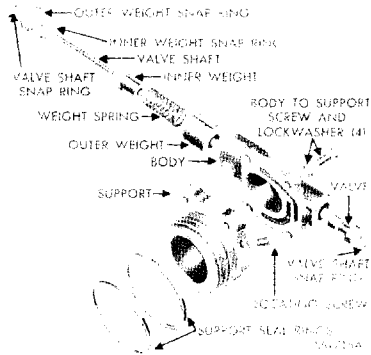

Fig. 58—Governor Assembly (Disassembled View)
(1) Remove governor shaft snap ring.
(2) Remove governor secondary weight and spring. Inspect all parts for burrs and wear. Check secondary weight for free movement in primary weight by placing weight in primary weight without the spring. Primary weight should fall freely when both parts are clean and dry. Inspect governor weight spring for distortion, Figure 58.